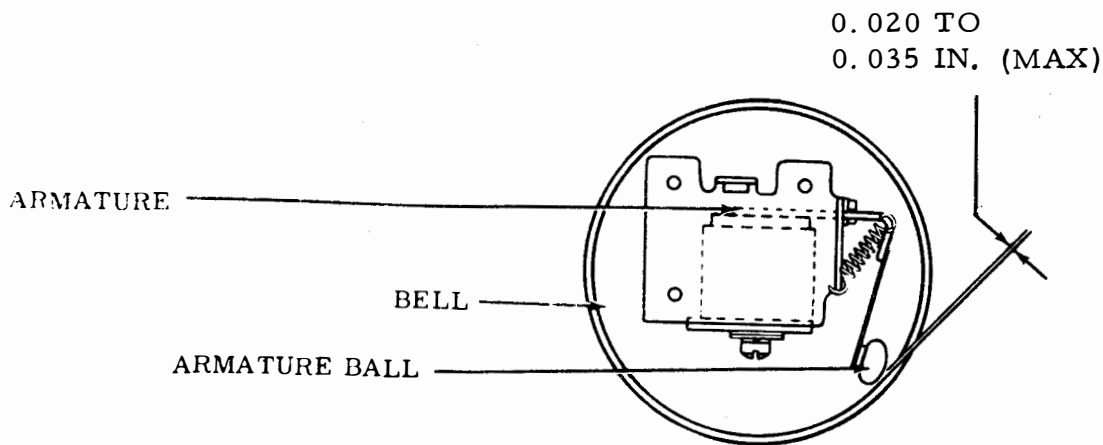

Figure 6-364. Electrical Service Unit Remote Signal Bell
(2) Remote Signal Bell. Adjust as follows:
- (a) Refer to Figure 6-364.